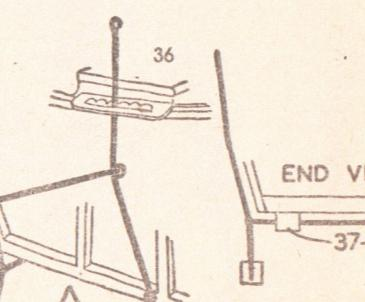

Fig. 7—Details of brake mechanism
At Fig. 7 you have the wire construction of the brake which is on the outside of the coach, blocks of wood being fitted on as brake blocks. The lever fits into a card or thin wooden ratchet (36), glued to the side of the framework. Fig. 7 gives you the two views showing how the handle lever should work both brakes by means of the under-floor rod which passes through the two support pieces (37). Mudguards are